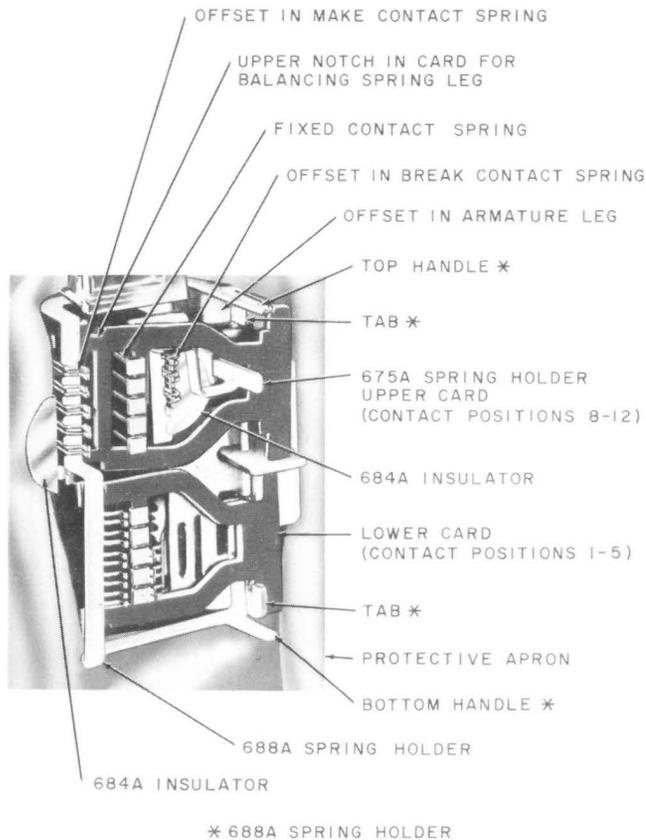

Fig. 3—688 Spring Holder Mounted on AK-Type Relay
lower card as covered in 3.16 if replacing contacts in positions 1 through 5. (See Fig. 3.)
- (3) To disengage the inner balancing spring leg from the card, hold the orange stick in the right hand and insert it between the two cards so the end of the orange stick is against the front molded section. Rotate the orange stick to separate the cards. With a second orange stick, push down on the end of the balancing spring leg and disengage it from the notch in the card. After both legs of the balancing spring are disengaged, remove the blocking tool. Figure 3 shows the balancing spring legs disengaged from the upper card.
- (1) Insert a 684A insulator to prevent shorting of the movable break contact springs with the contact cover spring or the core plate. To do this, hold the insulator with the offset end to the right and insert the other end between the comb and core plate so the insulator passes to the left of the contact cover spring. Push the insulator inward until the beginning of the offset touches the core plate. Moving the insulator laterally while inserting it may facilitate positioning. Make sure the insulator is positioned so it will insulate all the break contact springs. Figure 3 shows the insulator in position.
(1) If there is an AF-, AG-, AJ-, AK-, AL-, or AM-type relay mounted at the left, insert the 684A insulator to prevent shorting of the movable make contact springs against the core plate of the adjacent relay when these springs are held out of the comb grooves for replacement of contacts. If the relay is mounted adjacent to other apparatus against which the make contact springs may be shorted, insert a 684A insulator between the adjacent apparatus and one or both of the disengaged balancing spring legs as necessary.
(2) To insert a 684A insulator to prevent shorting of the make contact springs, proceed as follows. Using a KS-6320 orange stick, move the inner balancing spring leg to the right. Hold the insulator with the offset end to the left, and insert the other end between the balancing spring leg and the core plate of the adjacent relay. Release the balancing spring leg so it presses against the insulator. With the KS-8511 tweezers, position the insulator so it will insulate all make contact springs from the core plate. With the protective apron in place around the relay, the outer portion of the insulator should rest against the apron as shown in Fig. 3. Due to variations in positioning of the apron, it would be undesirable to rely on the apron to insulate the make contacts.
(1) On these relays, insert a 684A insulator, as covered in 3.17, to prevent shorting of the movable break contact springs with the contact cover spring or core plate during replacement of fixed contacts.
(2) After positioning the insulator as covered in (1), insert spring holders to hold the break contact springs away from the fixed contacts. The 675A spring holder is used for break contact springs in the upper half of the relay (positions 8 through 12) and the 675B spring holder for break contact springs in the lower half (positions 1 through 5). Each of the spring holders has five notches to engage the five pairs of break contact springs with which it may be used. It is important that the pairs of springs are engaged by the proper notches in the holder.
(3) To mount the 675A or B spring holder, proceed as follows. With the right hand, apply the KS-6320 orange stick to the right inner edge of the card and move the card as far to the right as possible. Holding the spring holder in the left hand, insert the notched section of the holder behind the break contacts. Release the card. Swing the handle of the spring holder to the right, and position the holder so each pair of break contact springs is engaged by the proper notch and the inner end of the handle is clipped in the core plate slot directly in front of the armature. Make sure the notched section of the holder is against the comb. Figure 3 shows the 675A spring holder in position in the upper half of the relay.
(4) With the right hand, apply the KS-6320 orange stick to the right side of the card and move the card as far to the left as possible. With the other hand, hold spring holder by the bottom handle and insert the notched section of the holder between the make contacts so that it touches the card. Swing the handle of the holder to the right, and position the notched section behind the make contacts. Release the card. Then, using both hands, grasp the top and bottom handles of the spring holder. Position the holder so its tab is adjacent and in front of the card, and the pairs of make contact springs are engaged in the proper notches. Then, with the springs in the notches, move the holder to the left, and position it so each tab rests against the left side of the adjacent armature leg. Make sure the notched section of the holder is against the offset in the make contact springs, and the inner edge of each tab is against the offset in the armature legs.
(5) Apply the orange stick to the right side of the outer leg of the armature behind the notch for the card, and hold the armature in the unoperated position. Grasp the upper section of the card with the tweezers, and move the card to the right and back so the card is in line with the notch in each armature leg. Then remove the orange stick from the armature, and guide the card in the notches. Figure 3 shows the 688A spring holder position.